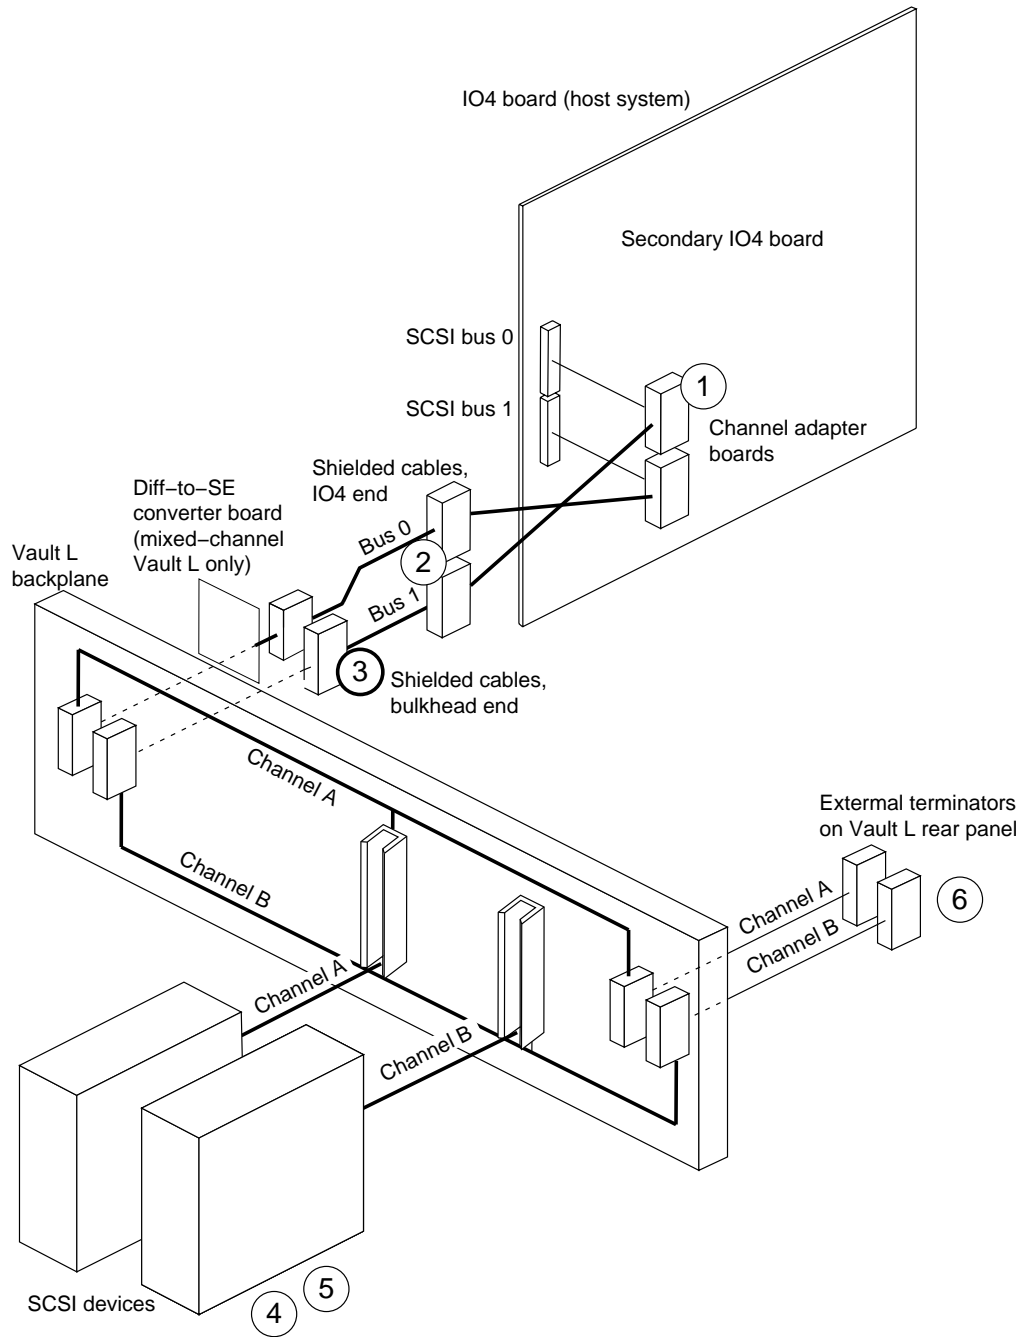

Figure 3-6 CHALLENGE Vault L Internal SCSI Channel Components
- Figure 3-6 shows CHALLENGE Vault L internal SCSI channel components.
Table 3-1 summarizes the use of SCSI labels. The key numbers in the leftmost column refer to callouts in Figure 3-6 earlier in this chapter.
Figure 3-9 depicts SCSI labels. The key numbers in the leftmost column refer to callouts in Figure 3-6 earlier in this chapter.